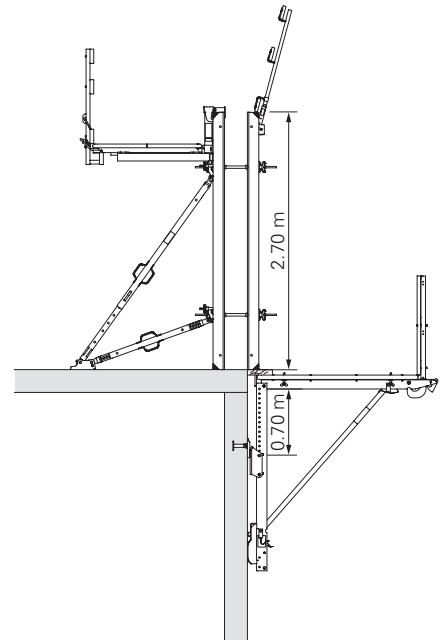

Fig. B2.02
- up to 2.70 m, max. height adjustment  $\Delta h = 70$  cm. (Fig. B2.02)